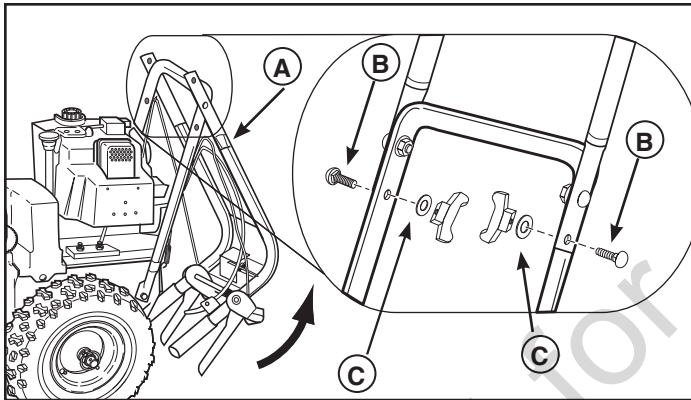

Figure 1
2. Raise the upper handle (**A**, Figure 1) to the operating position.